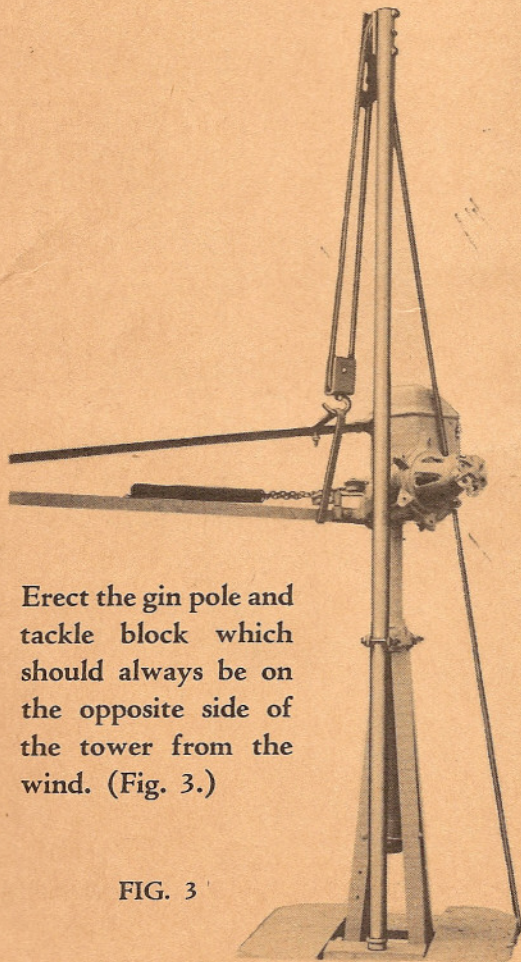

FIG. 3
3. Erect the gin pole and tackle block which should always be on the opposite side of the tower from the wind. (Fig. 3.)